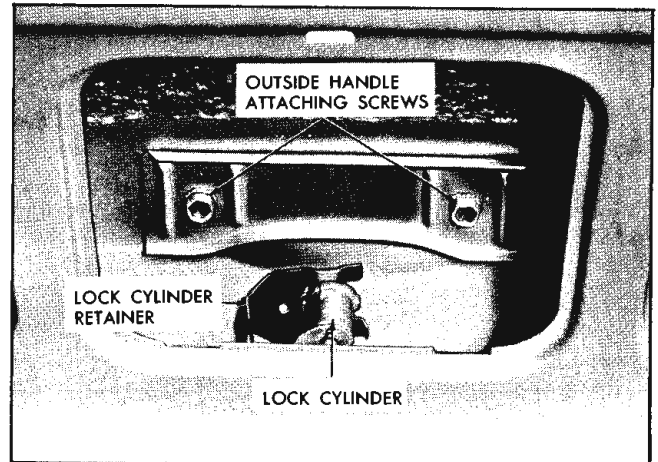

Fig. 15-17 Back Door Outside Handle and Lock Cylinder
2. Remove two screws securing outside handle (Fig. 15-17), and remove handle and gaskets.
3. To install back door outside handle, first cement handle gaskets to handle with weatherstrip adhesive (black) and apply a coat of adhesive to surface of gaskets which contacts door outer panel (Fig. 15-17) then, reverse removal procedure.
4. Remove screws securing outside handle (Fig. 15-17) and remove handle and gaskets.
2. Using a hooked tool or other suitable tool through access holes in door inner panel pry out lock cylinder retaining clip (Fig. 15-17) sufficiently to allow removal of lock cylinder and gasket from outer panel.